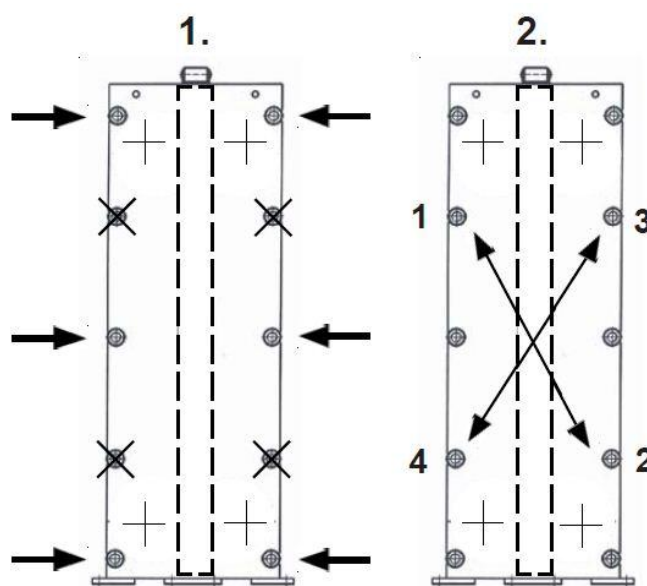

Fig. 8
Removal of tightening bolts at pressure plate and opening of the PAT (See figure 8).
1. The first tightening bolts shown on the Figure 8, Number 1 (indicated with arrows), may be removed in any order. The four remaining tightening bolts maintain equal pressure distribution over the plate and should not be removed.
2. Tightening bolts 1 – 4 (according to Figure 8, Number 2) are to be unscrewed diagonally in pairs, alternating as follows: